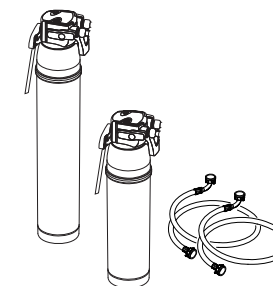

Fig. 3
3.3.1 Water treatment (fig. 3)